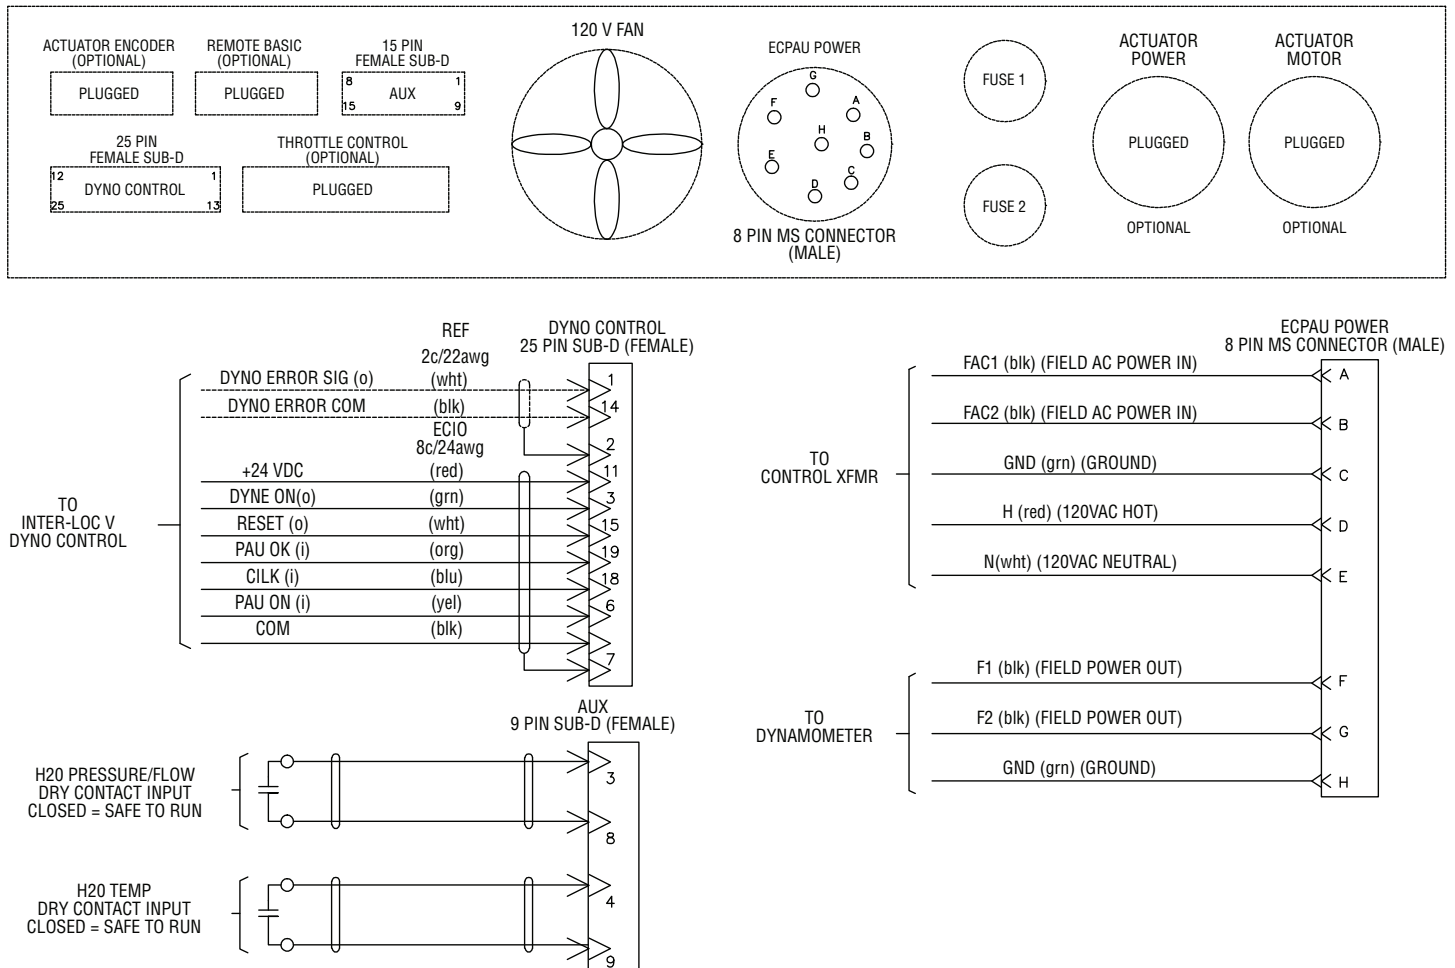
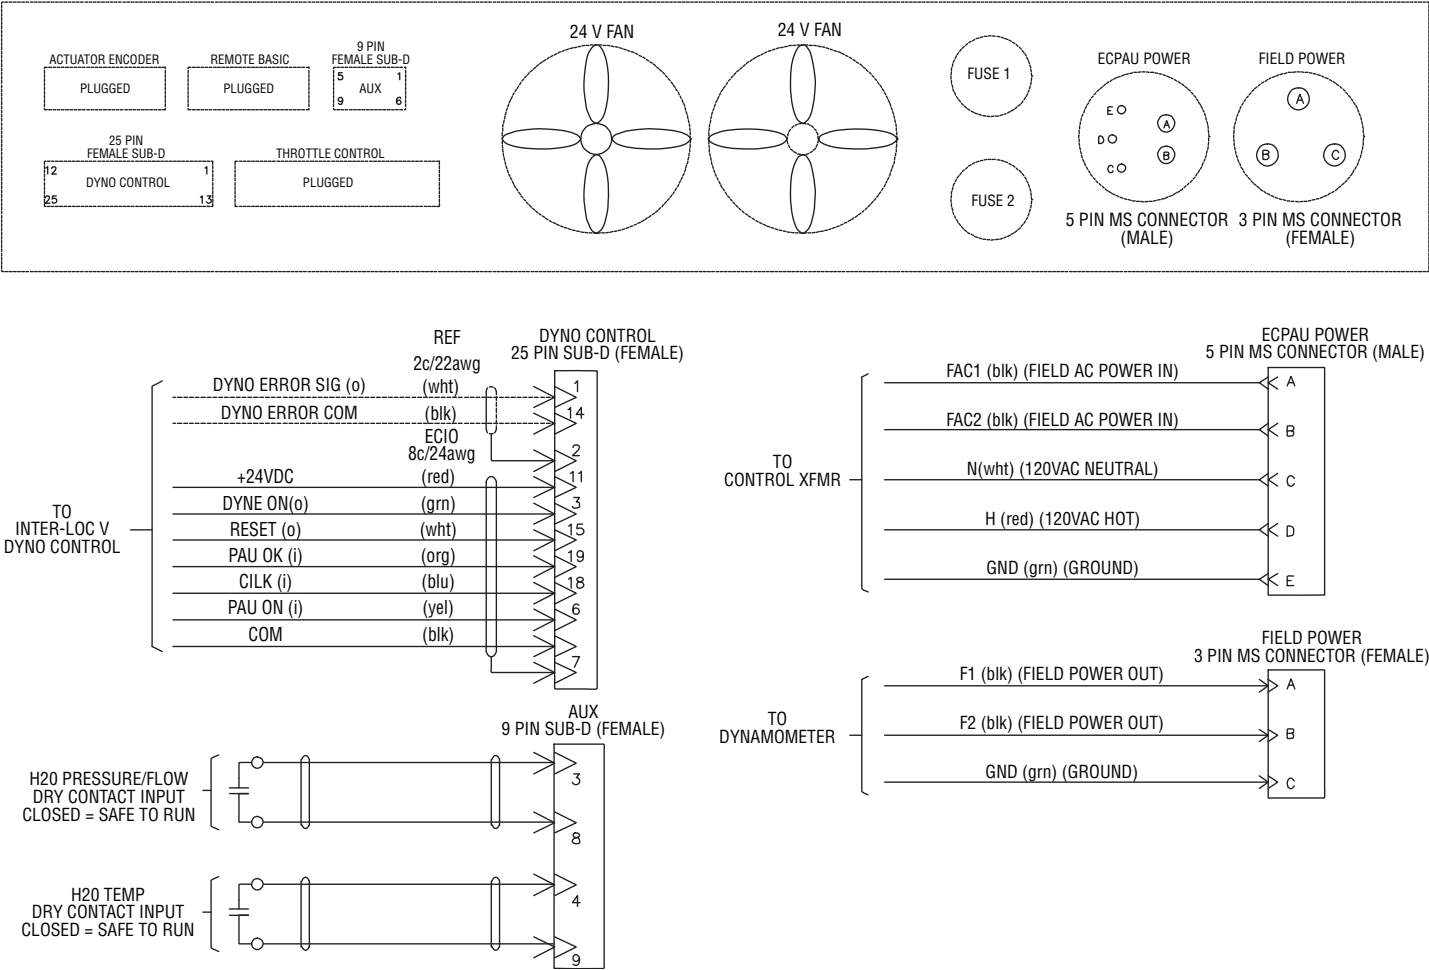

Figure 8 - 15 Amp Rack Mount PAU Back Panel Connections
Figure 9 - 30 Amp Rack Mount PAU Back Panel Connections
1. Connect wires according to the 15 Amp wiring diagram (Fig. 8) or 30 Amp wiring diagram (Fig. 9).